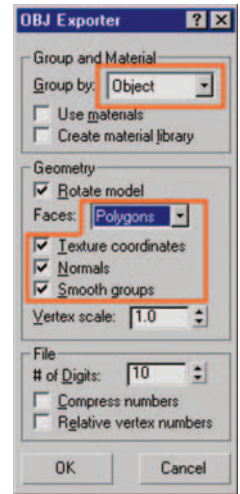

Figure 11.36 OBJ export settings in 3ds Max.
- Once you have your base mesh completely modeled and unwrapped, it will have to be exported. Export the mesh as a wavefront .obj file using the settings seen in Figure 11.36. *Note: There is another Import/Export option that works nicely with both Max and ZBrush created by Guruware called gw::ObjIO. gw::ObjIO can be found at <http://www.guruware.at/main/>. Follow the instructions for usage and installation.*
At this point you have modeled and UV Unwrapped your base mesh in 3ds Max and exported it with the settings seen in Figure 11.36.